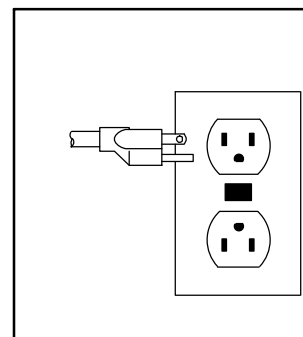

Figure 2. **Always** Use a Grounded Receptacle
For manual operation, simply plug the power cable into any 115 volt **grounded** receptacle. It is strongly recommended that a Ground Fault Interrupter (GFI) type receptacle (or equivalent) be used (see Figure 2).
4. Plug the float cable into a **grounded** receptacle. It is **strongly** recommended that a Ground Fault Interrupter (GFI) type receptacle (or equivalent) be used (see Figure 2).